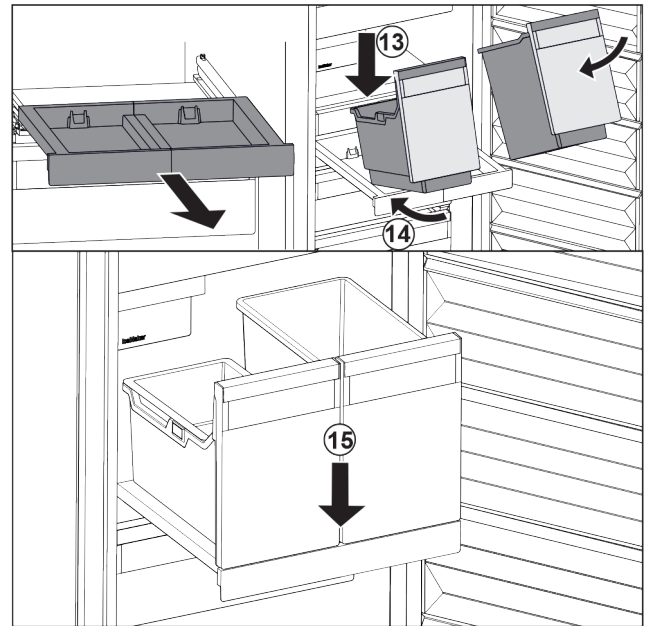

Fig. 145
- ▶ Place the container at an angle on the pull-out board. *Fig. 145 (13)*
- ▶ Slide the container to the back at an angle. *Fig. 145 (14)*
- ▶ Place container in the front. *Fig. 145 (15)*